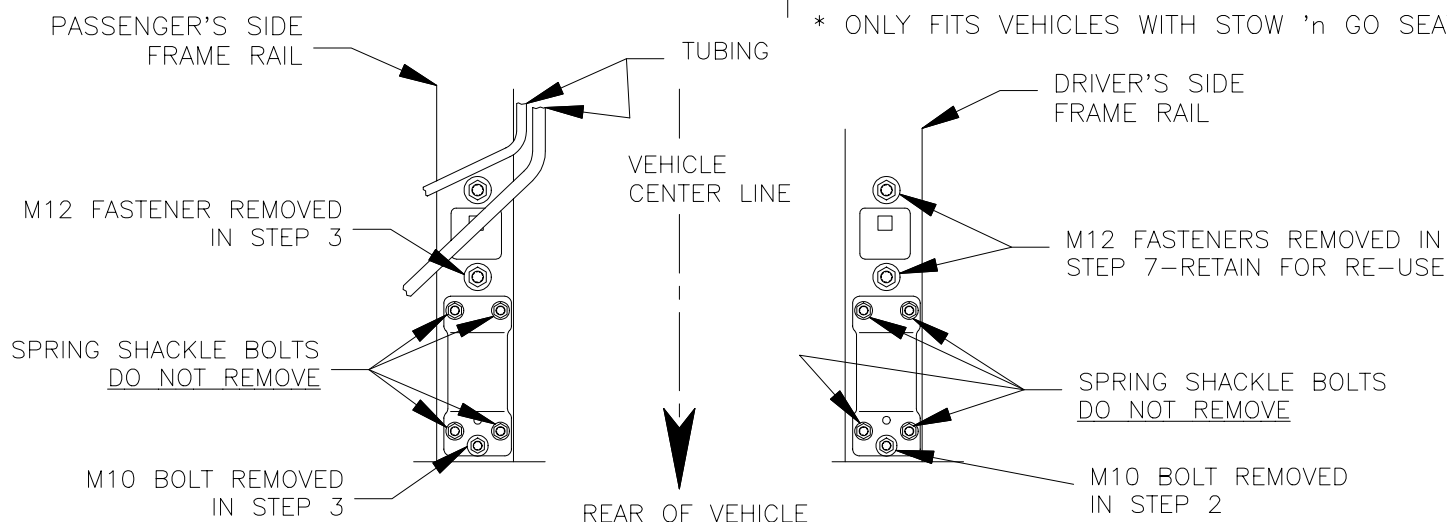

FIGURE 2
1. LOWER EXHAUST BY UNBOLTING (3) EXHAUST HANGER BRACKETS; (2) AT VEHICLE CROSSMEMBER AND (1) FORWARD OF REAR AXLE. REMOVE (2) REARMOST STEEL EXHAUST HANGER BRACKETS FROM RUBBER EXHAUST HANGERS AND RETURN TO VEHICLE OWNER.
2. ON DRIVER'S SIDE, REMOVE REARMOST M10 FASTENER AS SHOWN IN FIGURE 2 AND RETURN TO VEHICLE OWNER.
3. ON PASSENGER'S SIDE, REMOVE REARMOST M10 AND M12 FASTENERS AS SHOWN IN FIGURE 2 AND RETURN TO VEHICLE OWNER.
4. INSTALL (4) 3/8" CARRIAGE BOLTS DOWN THRU SQUARE HOLES IN DRIVER'S SIDE BRACKET.
7. ON DRIVER'S SIDE, REMOVE (2) M12 FASTENERS AS SHOWN IN FIGURE 2 AND RETAIN FOR RE-USE. REMOVE 3/8" NUTS FROM CARRIAGE BOLTS (INSTALLED IN STEP 4) AND INSTALL FORWARD SIDE BRACKET AS SHOWN. REINSTALL M12 BOLTS. INSTALL 3/8" LOCKWASHERS AND NUTS.